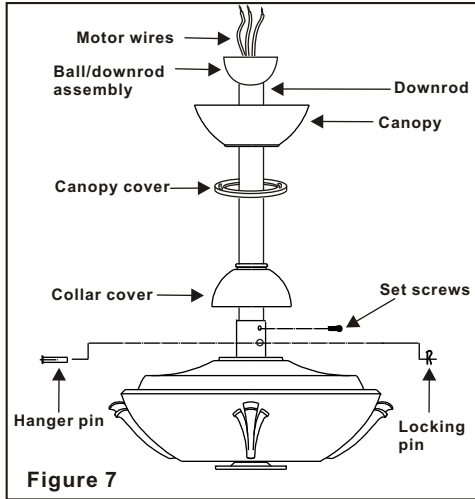

Figure 7
Step 6. Route wires exiting from the top of the fan motor through the collar cover, canopy cover, canopy and then through the ball / downrod.(Fig. 7)
Step 7. Align the holes at the bottom of the downrod with the holes in the collar on top of the motor housing (Fig.7). Carefully insert
the hanger pin through the holes in the collar and downrod. Be careful not to jam the pin against the wiring inside the downrod. Insert the locking pin through the hole near the end of the hanger pin until it snaps into its locked position, as noted in the circle inset of Fig. 7.
Step 8. Tighten two set screws on top of the fan motor firmly (Figure 7)